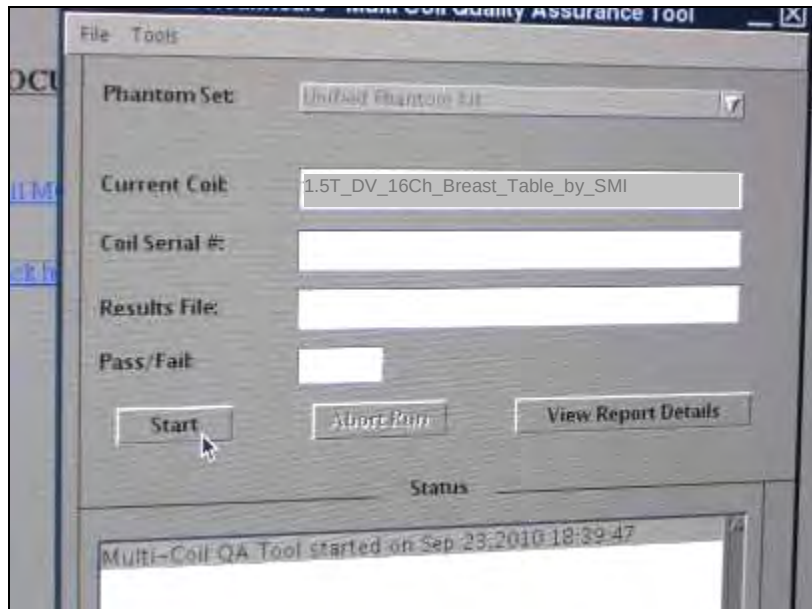

Figure 62: Screen Capture – MCQA Tool Start
6. Do not start a new patient; open the Tools box, and start MR Service Desktop. Select the top tab marked 'Image Quality.' In the side menu, select 'Multi-Coil QA Tool', then 'Click here to start this tool.' The program shown in Figure 62 will start: